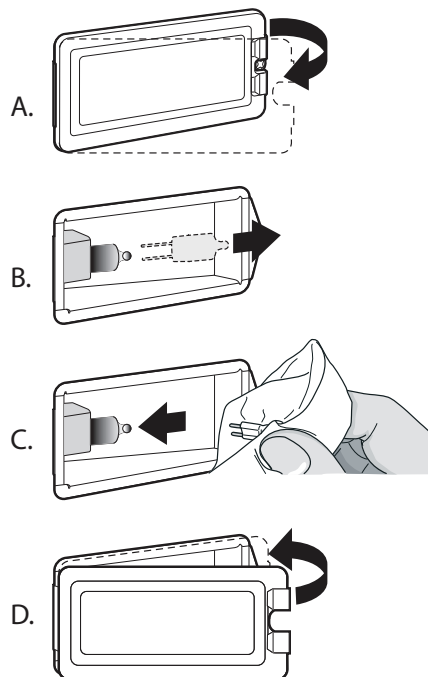

Figure 27: Bulb Replacement
3. Slide the tip of a flat blade screw driver between the holder clip and the lamp housing (*Figure 27, A*).
6. Remove the bulb by grasping and sliding the bulb straight back until the two prongs have cleared the ceramic holder (*Figure 27, B*).
8. Press down to seat the bulb (*Figure 27, C*).
9. Slide the protective lens into the holder clip and push the other end until the fixing clip snaps back into the housing (*Figure 27, D*).